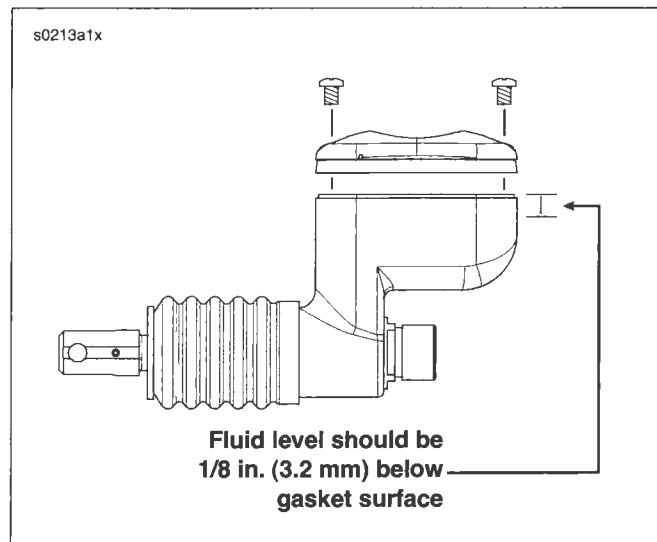

Figure 1-11. Rear Brake Master Cylinder Reservoir
1. See Figure 1-11. Check level in rear brake master cylinder reservoir. Level should be 1/8 in. (3.2 mm) below the gasket surface.